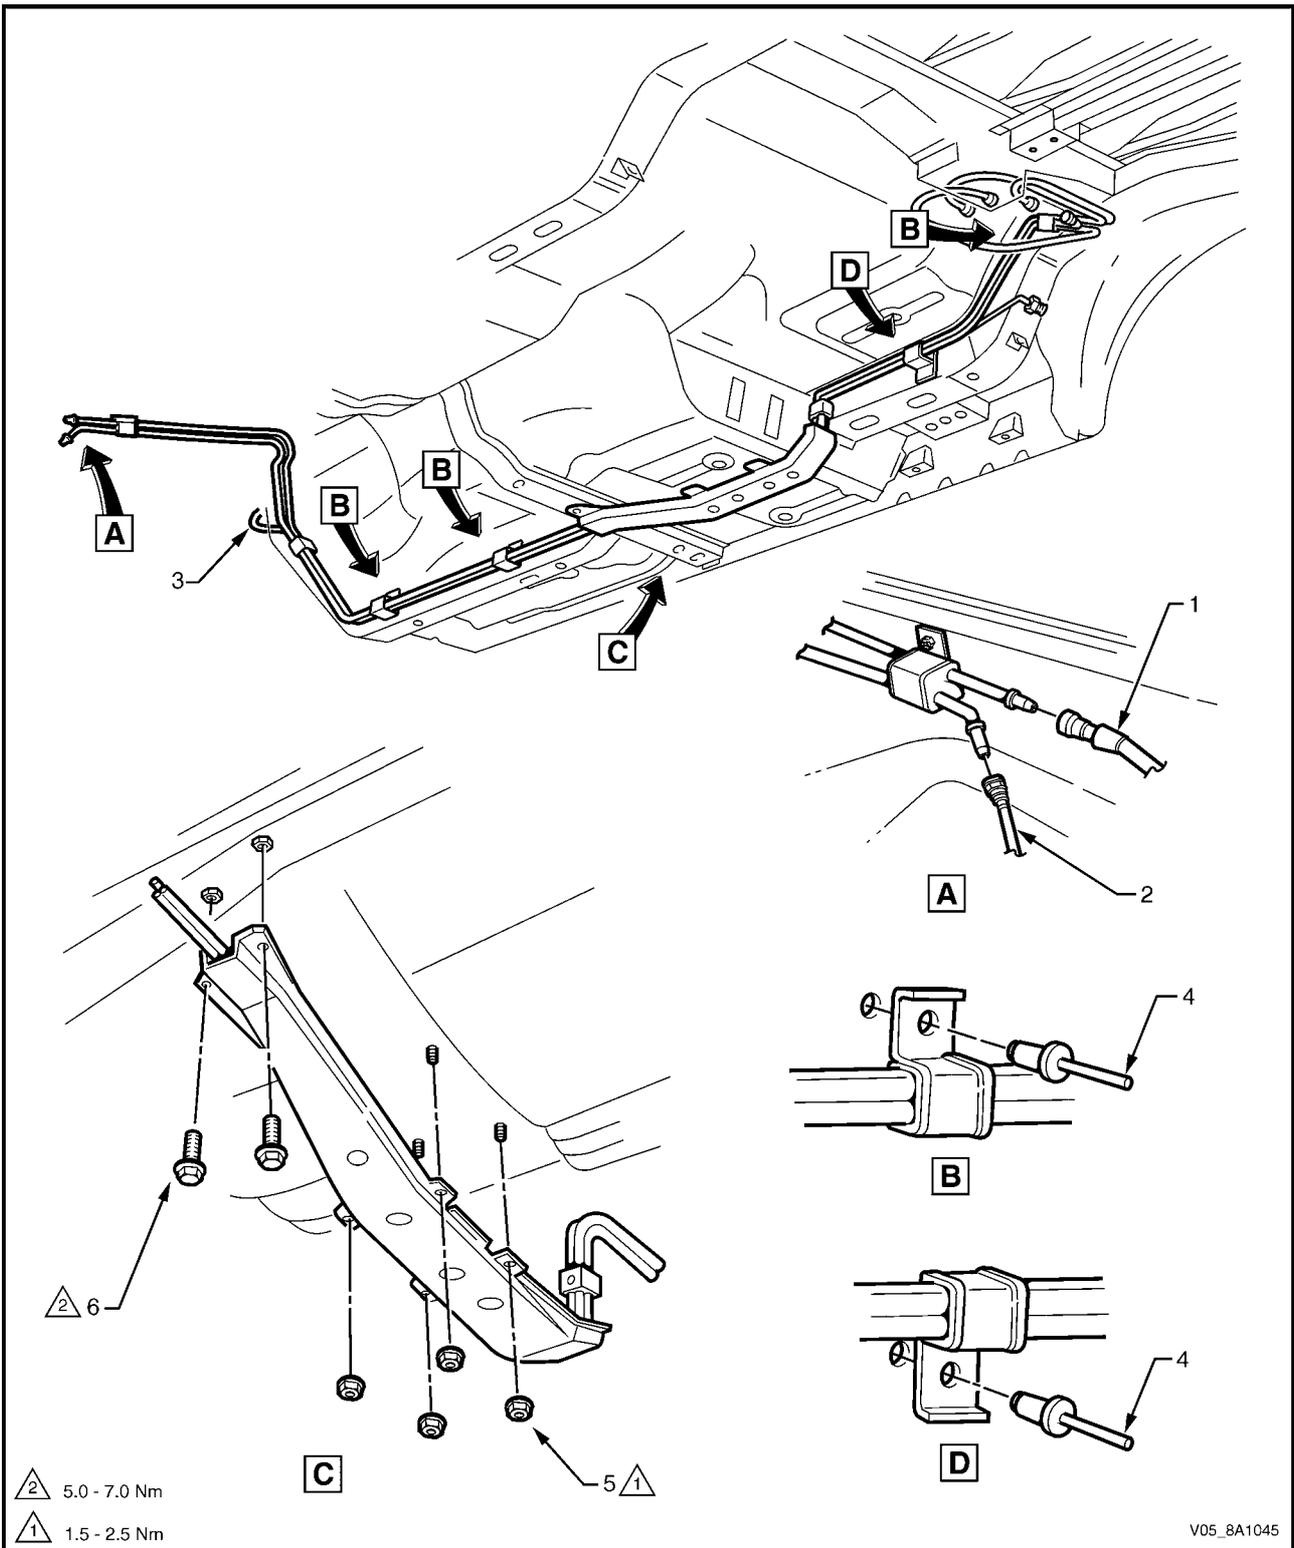

Figure 8A1 – 77
- 5 If required, remove the stone guards and fuel pipes. Use the following illustrations showing the fuel pipe layout and location of other items relating to the fuel system as a guide, refer to Figure 8A1 – 63, Figure 8A1 – 77 and Figure 8A1 – 78.